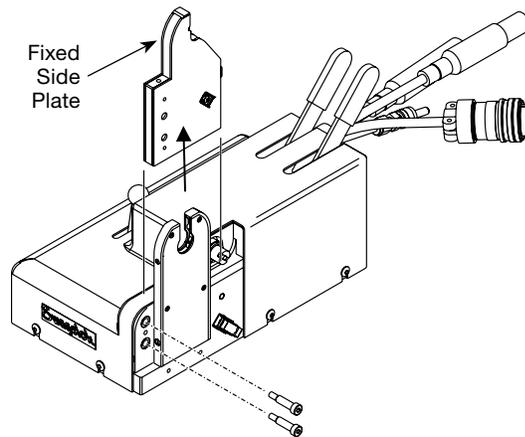

Figure 34 Removing the Fixed Side Plate
8. Pull the fixed side plate off of the fixture. See Figure 34.